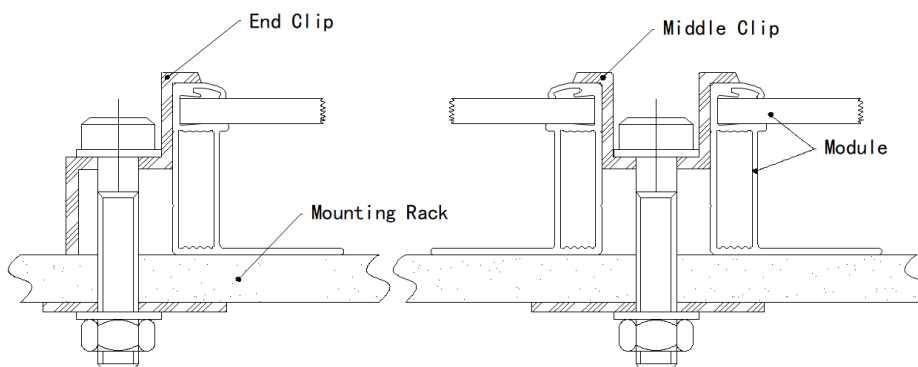

FIG 6 Clamping mounting method
- Using suitable module clamps on the side of the module frame to mount the modules, as shown in FIG 6. The thickness of the clamp should be no less than 3mm, the length should be no less than 50mm and the length of the overlap should be no less than 5mm.
- Modules should be mounted by screw, flat washer and spring washer on mounting rack. The clamp should be mounted in a symmetric position respect to the center, as shown in FIG. 6. The torque should be determined by the mechanical design standard of the screw. For instance, M8--16-20N.m.